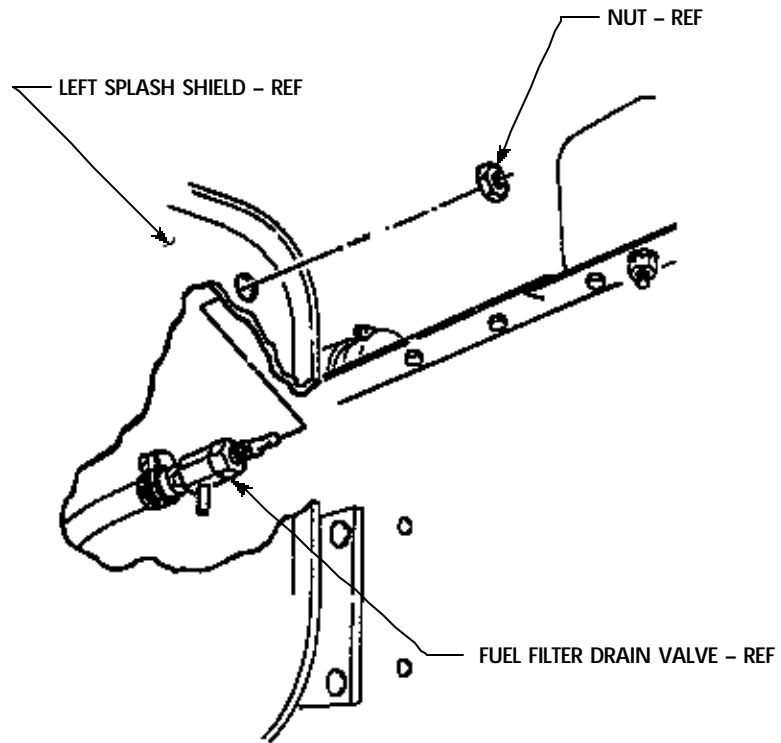

FIGURE 3
- (7) Install fuel filter drain valve on left splash shield with nut as shown in figure 3.